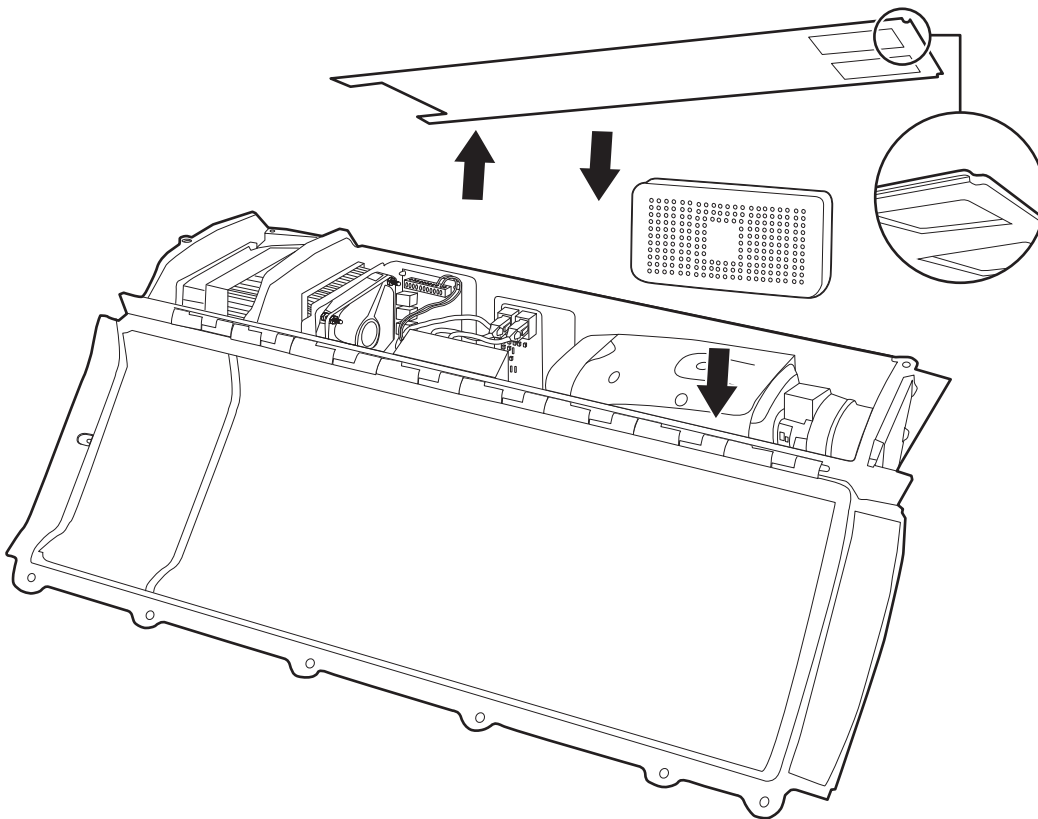

Figure 12. Removing and Replacing Black Panel Cover on FH-H Series Enclosure Models
4. Replace the black panel cover (refer to Figure 12). The grooved edge of the cover panel must face downward toward the camera compartment for it to seat properly.